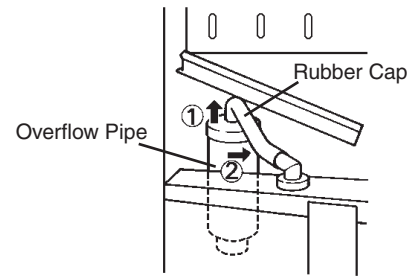

Fig. 2
- 3) Drain the water tank by removing the insulation panel and the rubber cap covering the overflow pipe in the water tank. Remove the overflow pipe by turning it counterclockwise. See Fig. 2.